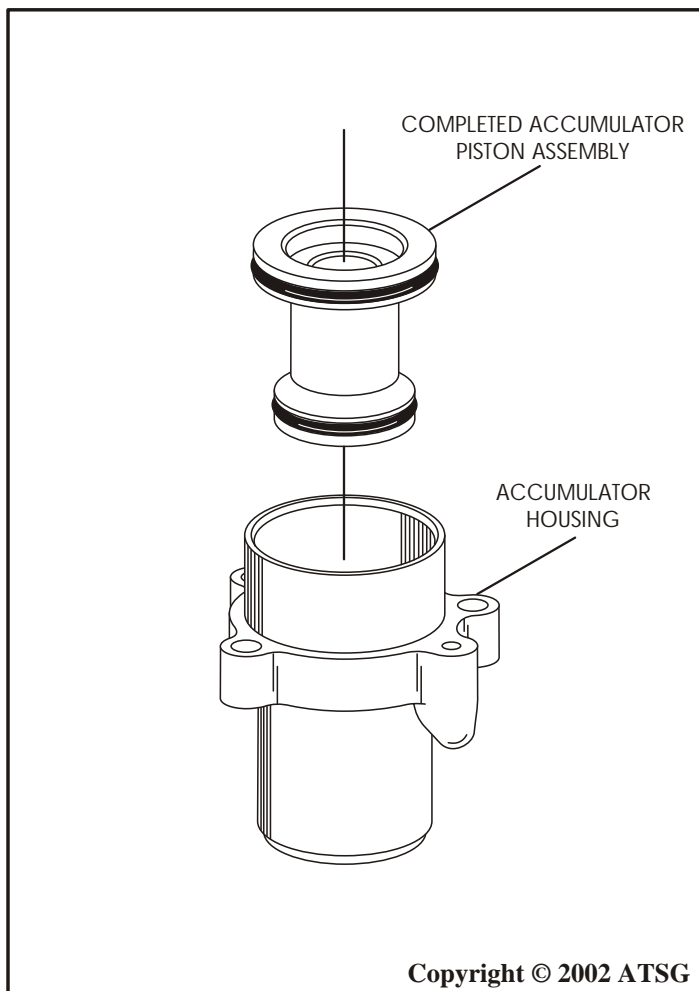

Figure 171
32. Install the completed accumulator pistons into the accumulator housings (See Figure 171).